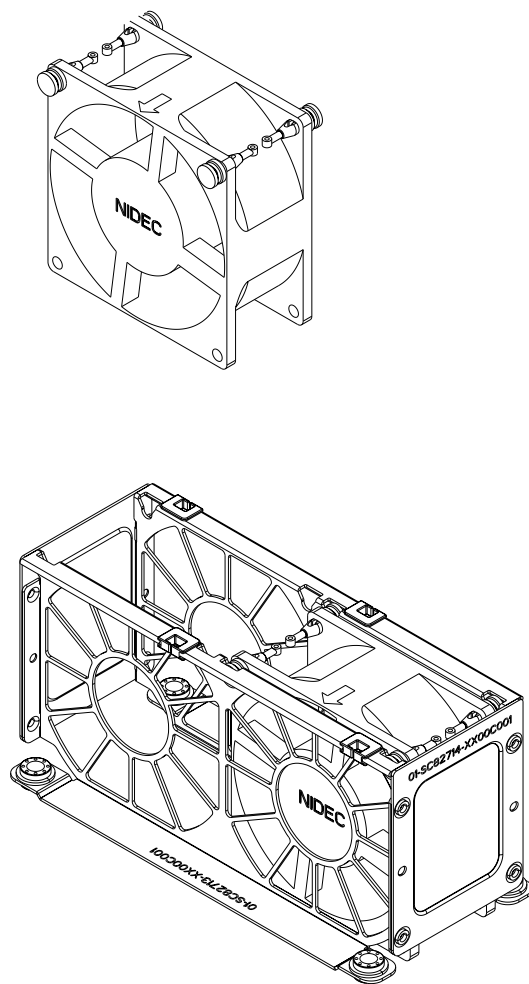

Figure 6-2 Fan Replacement Example
4. Undo and pull the fan housing assembly up and out of the system chassis, see Figure 6-2.